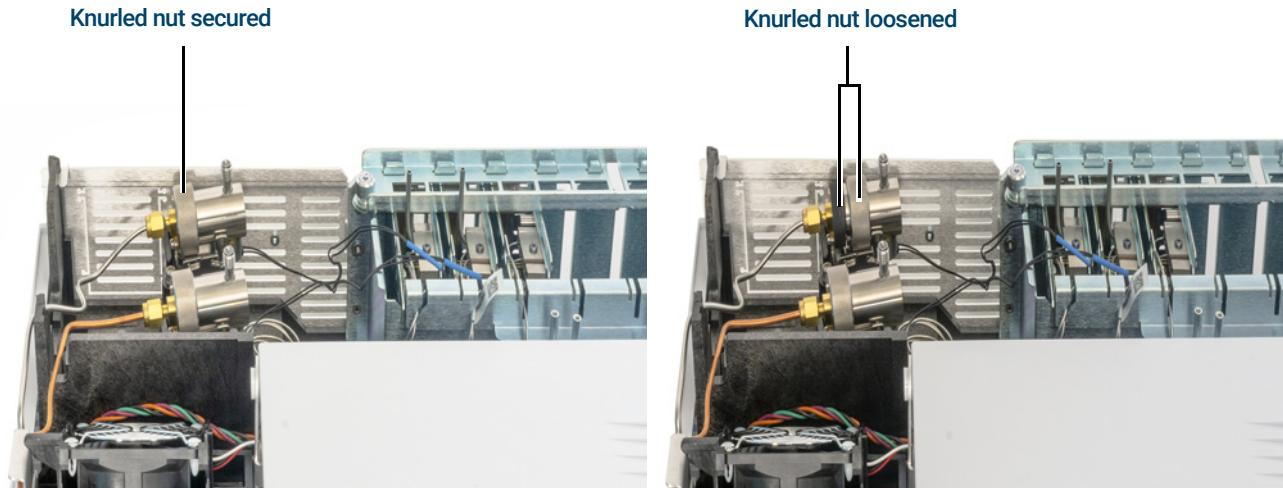

Figure 22. Loosen the knurled nut
- 4 Completely loosen the knurled nut that secures the split vent trap in place as shown in Figure 22.